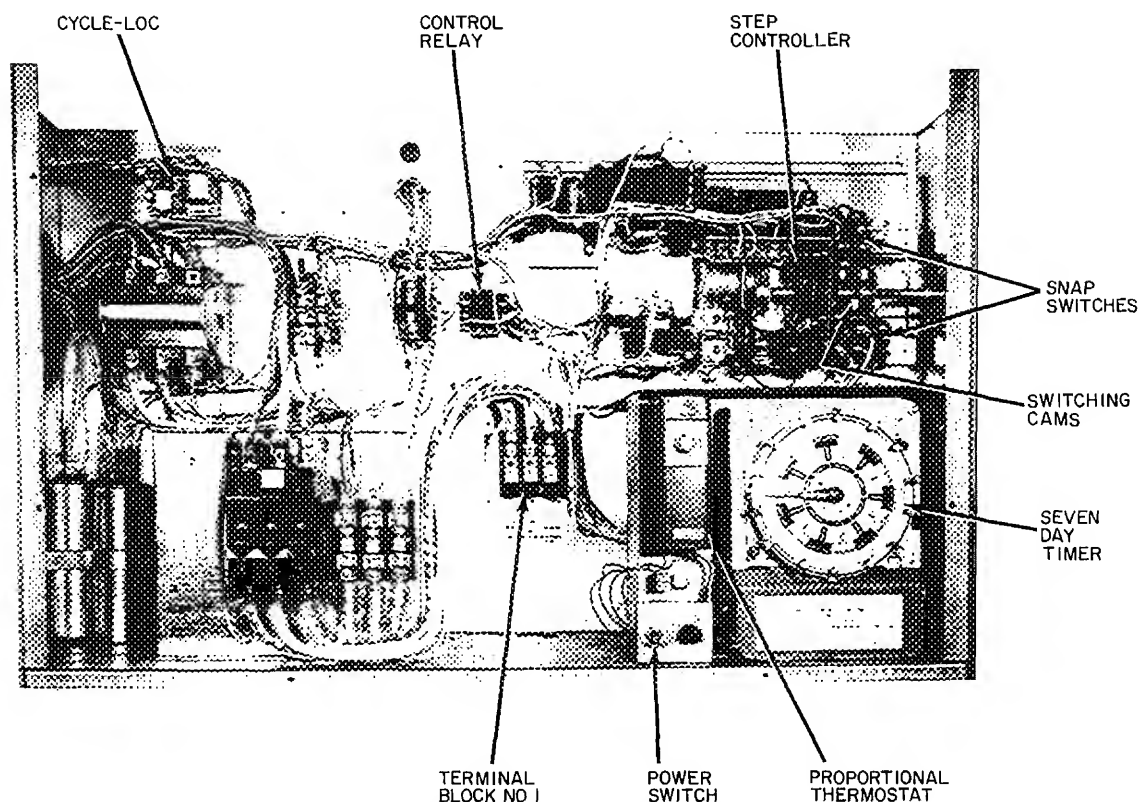

Fig. 18 — Control Panel, Variable Volume Limits
Variable Volume Units — Units suitable for use with variable volume air handling systems are equipped with 2 electric unloaders on the compressor. The control panel for these units (Fig. 18) consists of a step controller, a proportional thermostat, a 7-day timer and a power switch.
1. On the timer dial face (Fig. 18), loosen the thumb-screws which position the system ON and OFF trippers.
PROPORTIONAL THERMOSTAT — The proportional thermostat, Fig. 18, monitors temperature of the conditioned air leaving unit. On signal from the thermostat, sequence motor operates cam switches to load or unload compressor to maintain thermostat setting. Thermostat is factory set at 50 F \pm 6 F but may be reset between 0°F and 100 F as follows: